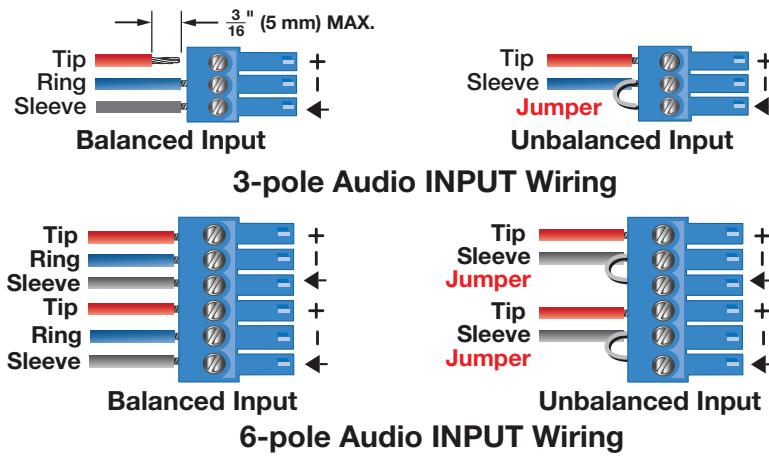

Figure 5. 3-pole and 6-pole Audio Input Wiring
- I** **Mic/Line inputs** — Use 3-pole or 6-pole 3.5 mm captive screw connectors to connect up to six balanced or unbalanced microphone or mono line level sources (see figure 5 for wiring details). Inputs 1 through 6 provide phantom power and AEC.